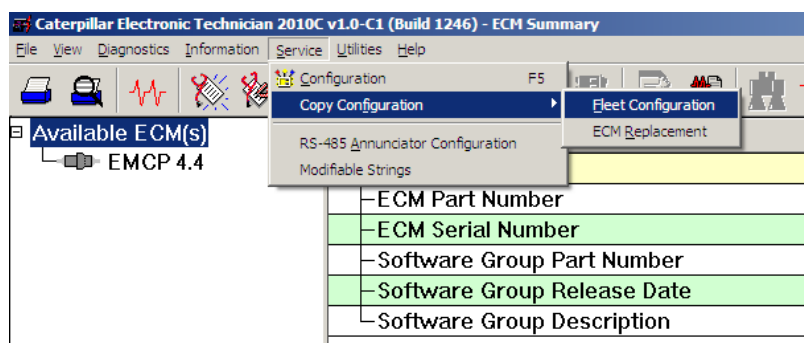

Figure 17.1 – Cat Service Tool EMCP 4 GSC Summary Screen
After connecting to the EMCP 4, navigate to Service → Copy Configuration. (See Figure 17.1). There are two options:
1. From the Service Tool menu, select the following: Service → Copy Configuration → ECM Replacement. See Figure 17.1.